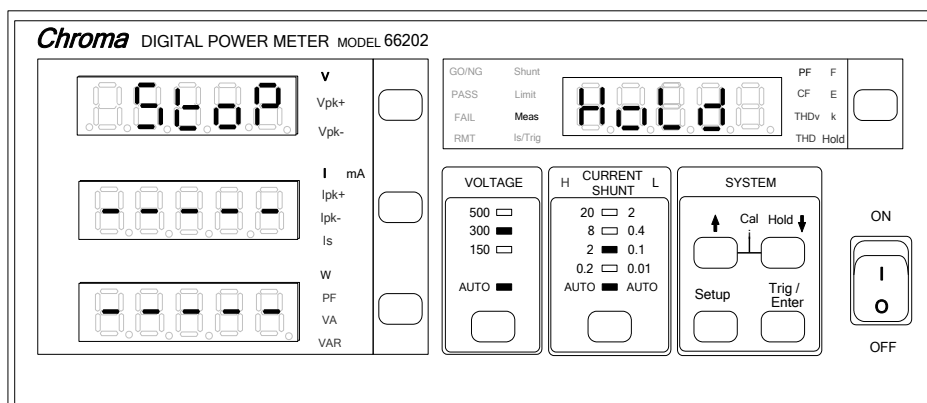
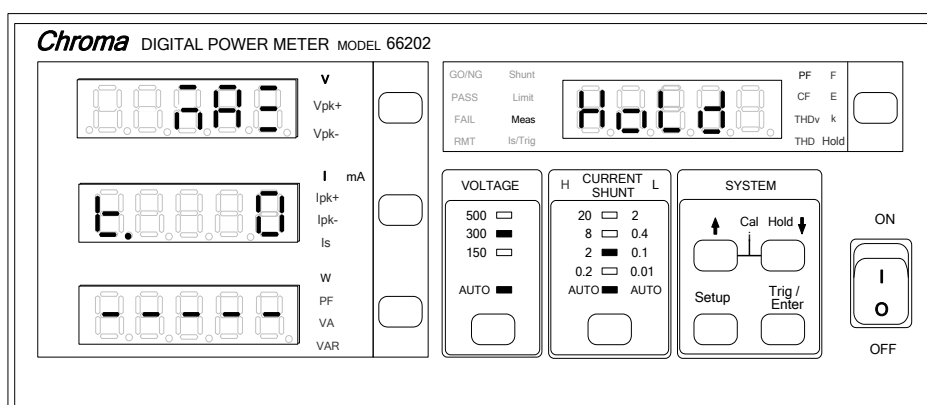
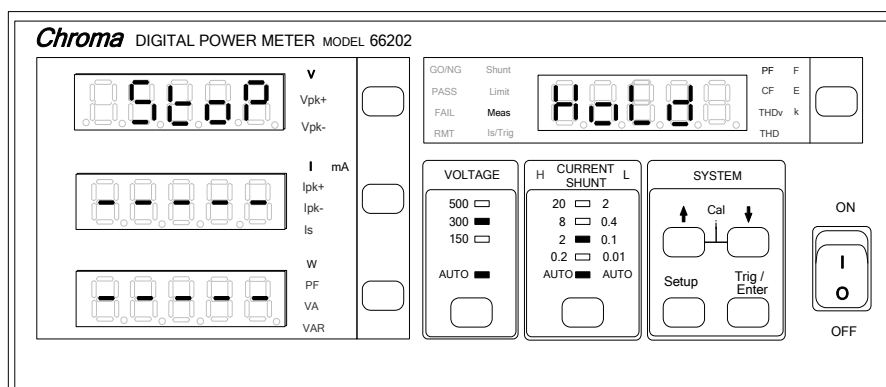

Figure 4-29 Setting Stop in HOLD
Figure 4-30 Setting Max in HOLD
Figure 4-32 Old Setting Panel of Stop for HOLD
3. Use **↑**, **↓** to select Stop, Max or Min as shown in Figure 4-29, Figure 4-30 and Figure
The HOLD function in 66201/66202 Power Meter is only supported when the firmware version is ≥ 1.20 . HOLD is a new function and since the display panel has old and new versions, the old version as Figure 4-32 shows has no HOLD indicator while the new version has it as shown in Figure 4-29. The HOLD is located at **↓** key.